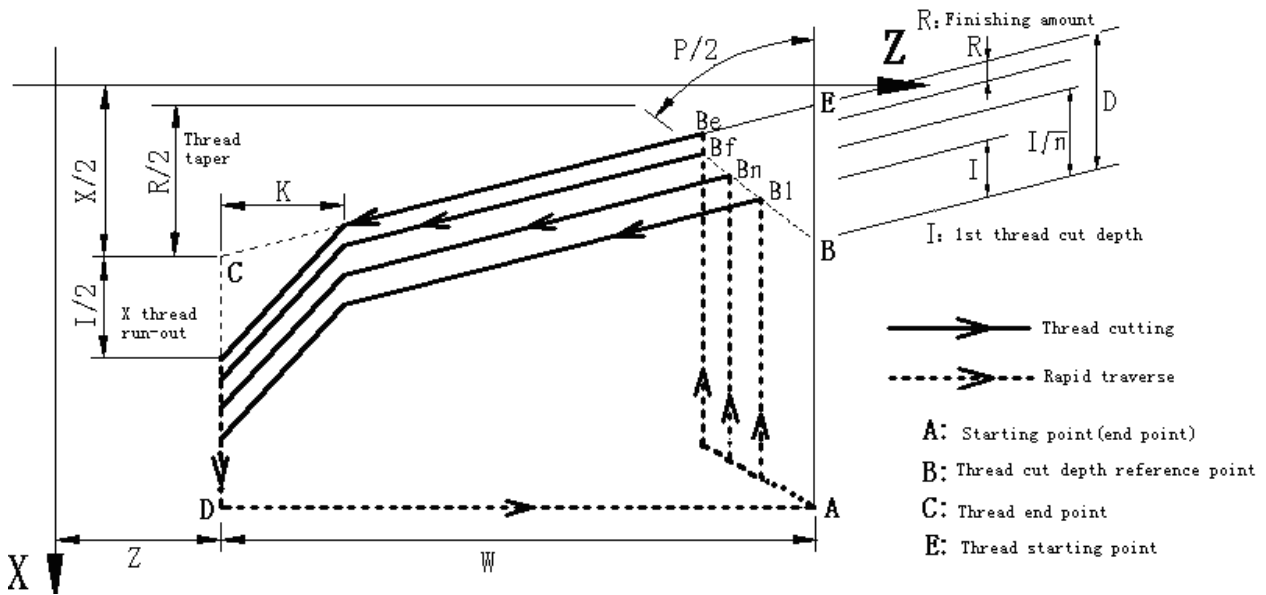

Fig. 4-47
Field definitions, data range are the same those of G92 as Fig. 4-47:
Relative definitions: (as Fig. 4-47)
1. Using G76 thread cycle cutting command group can complete the specified tooth height (total cut depth) of the thread cutting by multi thread roughing and finishing; when the thread angle defined by the command ① is not 0° , the cut-in point of thread roughing moves to the thread tooth bottom from the thread tool top and the angle between neighboring two teeth is the defined thread angle.
4. When the thread angle defined by G76 ① is not 0, X, Z move simultaneously, the thread axis reaches the cut-in point, and then the single-axis for non-thread axis moves to the cut-in point in G76 ② thread cycle from the starting point to the cut-in point; other cut path is the same that of G92 as Fig. 4-47.